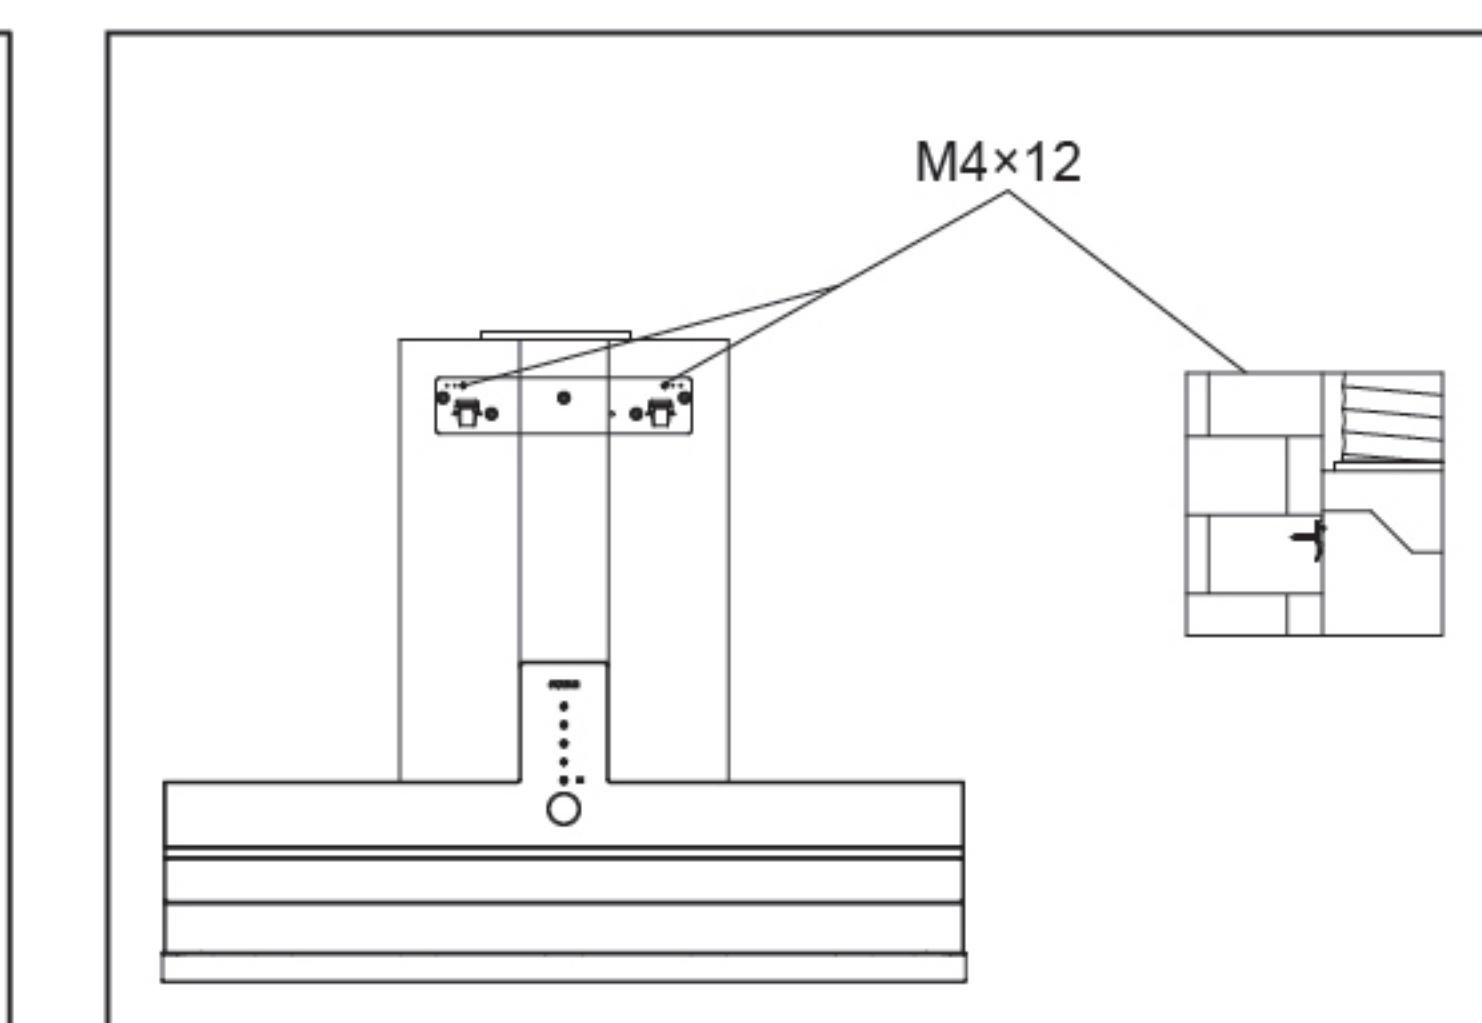

fig11
- Lift the main body, hang the hook holes at the upper part of the back of the range hood at the hooks, use the level ruler to confirm that the range hood is horizontal, and use the screws ( $\text{M}4 \times 12\text{mm}$ ) to fix the fan frame and the hooks; (fig11)